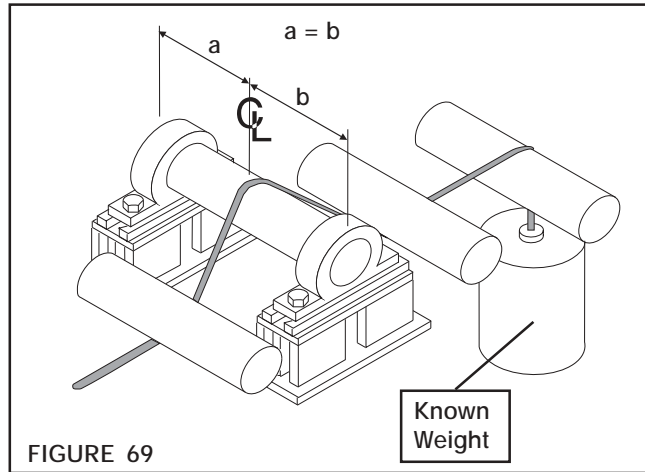

FIGURE 69
1. Thread a rope or narrow web over the Sensor Roll in the normal path. Be sure the rope is secured at one end and is at the center of the Sensor Roll (See Figure 69).